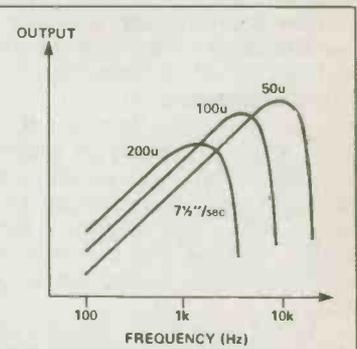

Fig. 8. (right) Output level versus frequency response for different head gaps.
3. Effect of tape speed: The differing equalization characteristics, quoted above, tacitly recognize that the performance of the recorder, other things being equal, will be very strongly influenced by the speed at which the tape passes under the replay head. Not only will the output signal fall as the speed is reduced, but the HF performance will also be impaired, as I have shown in Fig. 8.